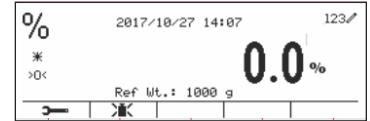

Figure 70
- Press the softkey corresponding to the  icon to save the value. Press the softkey corresponding to the  icon to exit submenu. (See Figure 70)